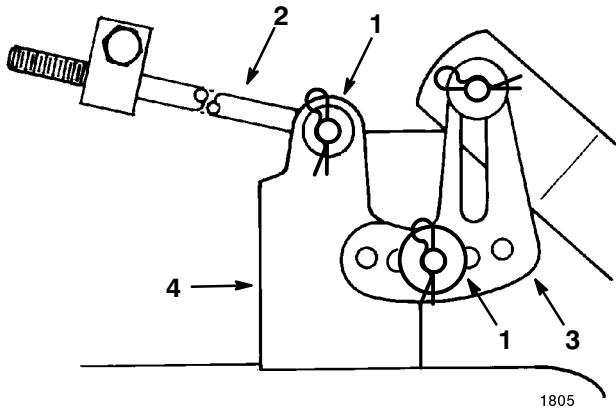

Figure 51
5. Remove the hairpin cotter and washer from the leveling bracket (Fig. 51). To level the blade(s), reposition the leveling bracket in a different hole and install the washer and hairpin cotter. (Fig. 51). A front hole lowers the blade height and a rear hole raises its height. Repeat this procedure on the opposite side of the mower.